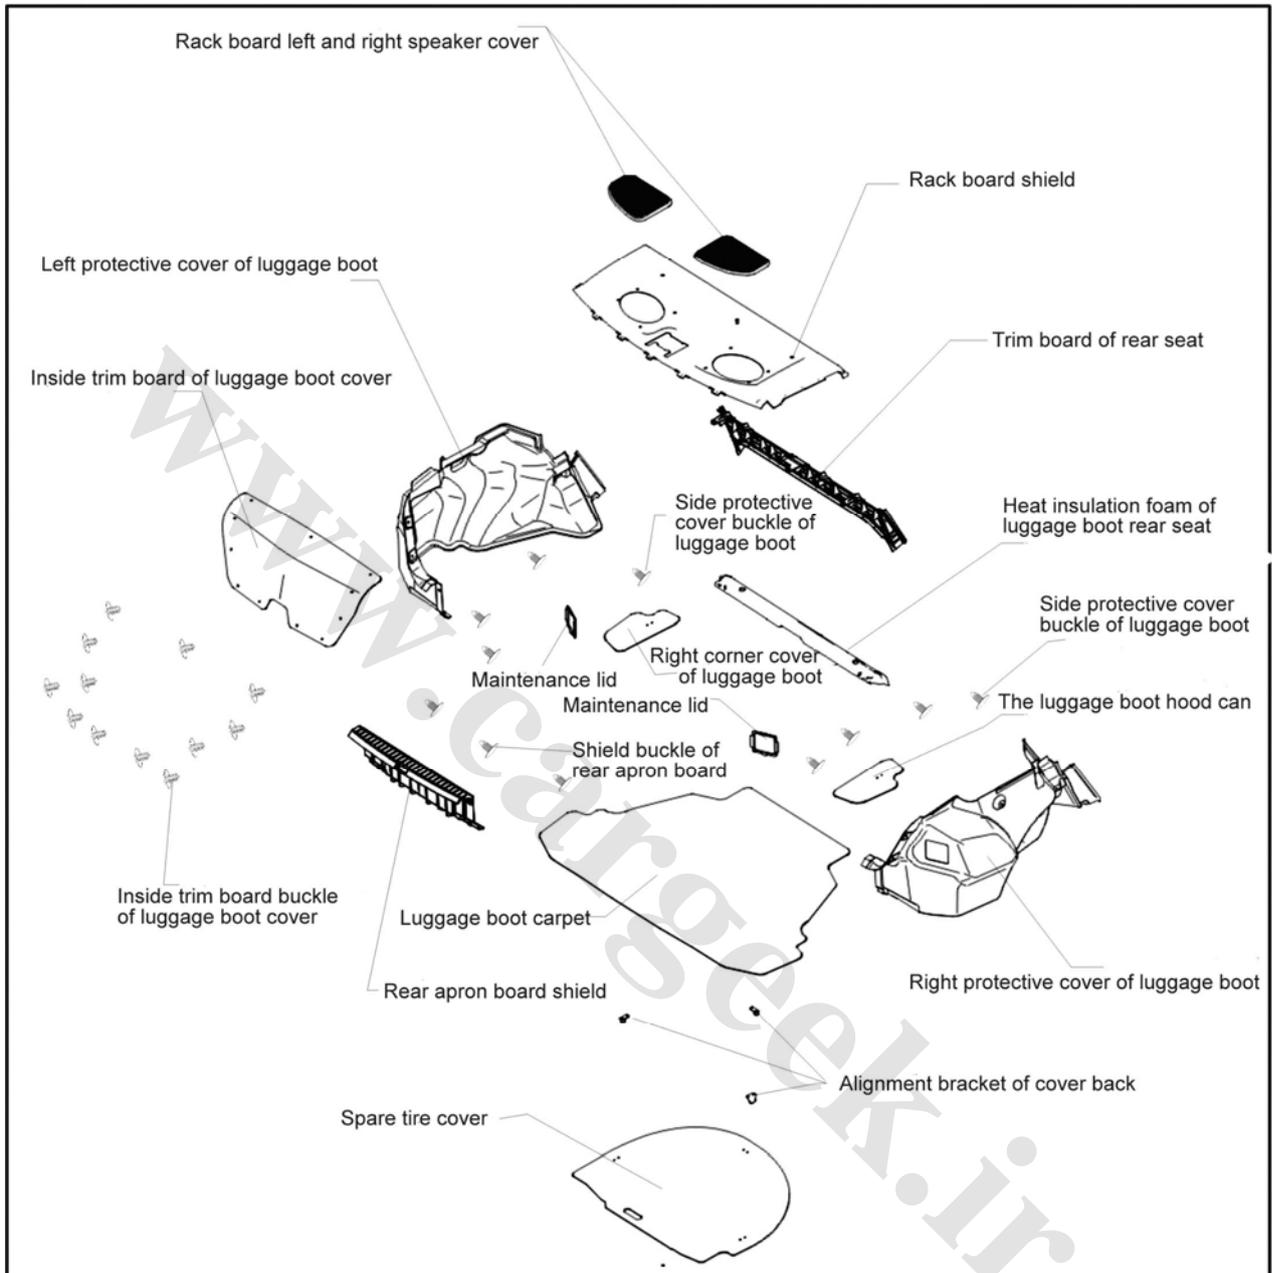

Fig. 7-25
- ⑤ Install the inner handle cover stem after the installation of the bolts.
- ⑥ After installing the harness on the corresponding armrest seat of the door plate, fix the rear side of the armrest seat in the installing hole of the door plate first and then press the snap spring at the front side into the installing hole of the door plate. Firm the armrest seat with the armrest seat bolts.
1. Removal of rear wall, as shown in Fig. 7-25: